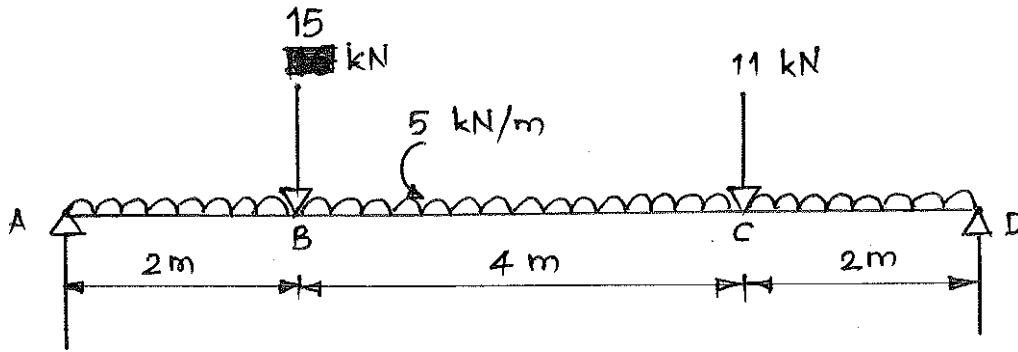

Figure No. 1
- c) Write the relation between modulus of elasticity (E), modulus of rigidity (G) and Poisson's ratio (μ). Also state the relation between E, bulk modulus (K) and μ . Using these two relations obtain the relation between E, G and K.
- c) Draw SF and BM diagrams for the beam loaded as shown in Figure No. 1. Also locate the position and determine the maximum B.M.